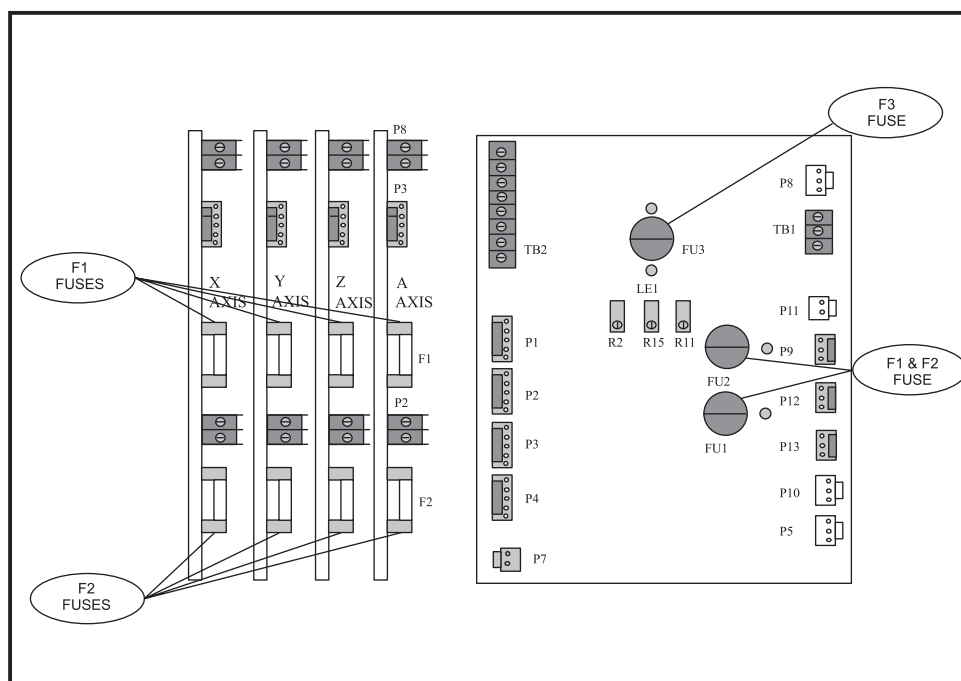

Figure 4.3-3 Servo Drive Assembly; fuse locations
3. On the SERVO DRIVE ASSEMBLY, there are three fuses on the SDIST panel, and three individual fuses on each of the SERVO DRIVE boards (See Fig. 4.3-3; the F3 fuses are not shown).